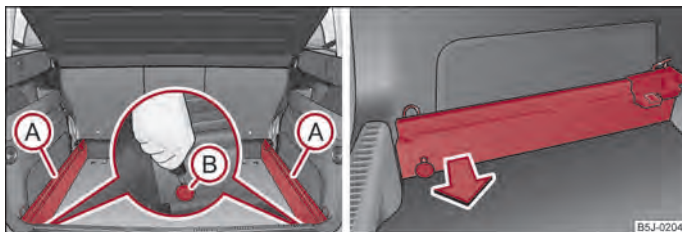

Fig. 50 Luggage compartment: Slacken check points/remove carrier rails
- Slacken the check point ① on the carrier rails using the vehicle key or a flat screwdriver ⇒ fig. 50.
- Grasp the carrier rail ② ⇒ fig. 50 on the right and take it out by pulling in direction of arrow. The carrier rail on the other side of the luggage compartment can be removed in the same way.